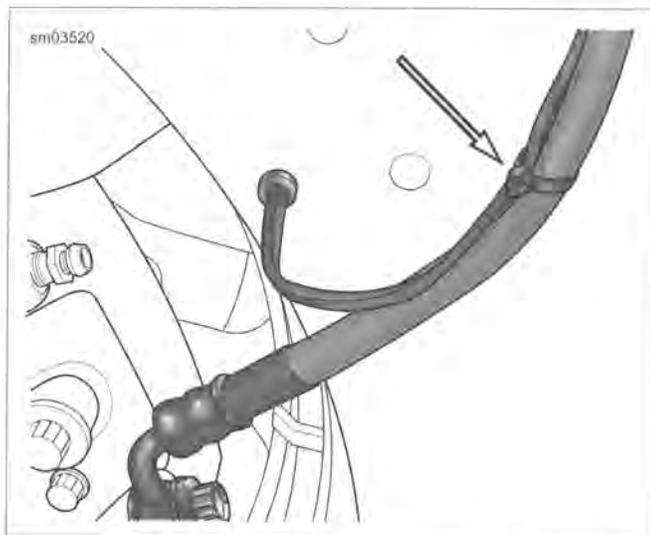

Figure 2-53. Capture Brake Hose and Front Fender Tip Lamp Wires
3. See Figure 2-53. Cut cable straps from left brake hose.
4. See Figure 2-53. Secure fender tip lamp and WSS wires to left brake hose with **new** cable straps.